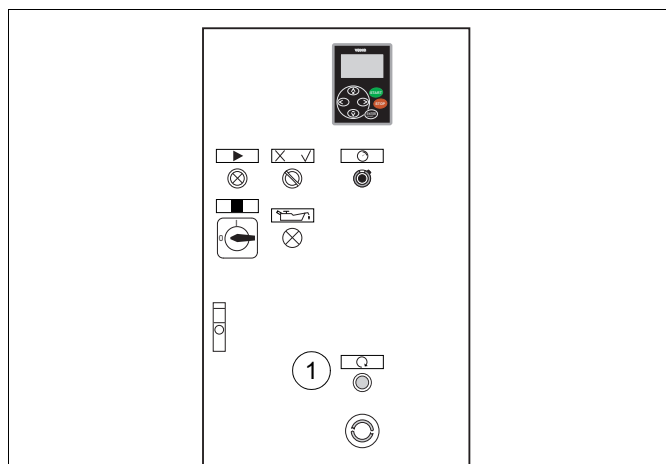

fig. 10 Reset procedure error events
2. Press reset button 1; see fig. 10.